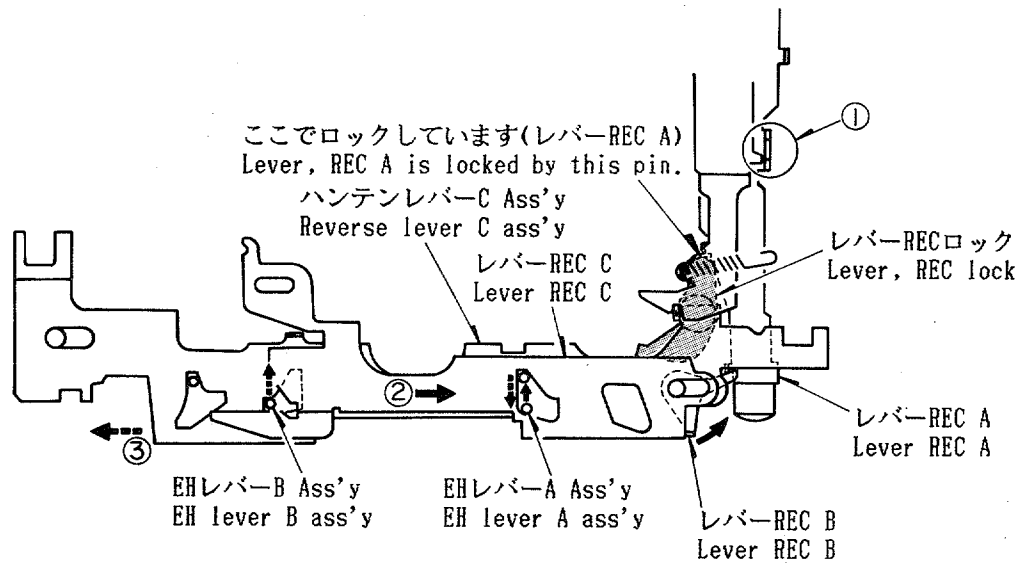

Fig. 13
- 1) REC状態にすると、レバーREC Aは、①部分でR/PスライドSWを切換え、レバーRECロックでロックされます。(Fig. 13参照)
- 2) ヘッドシャーシAss'yの作動は、PLAY作動と同じですが、レバーREC Cも矢印②方向へ作動します。
- 3) レバーREC Cが矢印②方向へ作動するとEHレバーA Ass'yのピンのロックが解除され、EHが上がります。(Fig. 13参照)
両方ともEHレバーA, B Ass'yのピンはロックが解除されますが、ハンテンレバーC Ass'yにより実際は交互にしかEHは上がりません。(Fig. 13参照)
- 1) Setting up the recording mode causes the lever REC A to move forward. This movement turns the rec/pb slide switch into the recording position by pin ①. Then, the lever, REC A is locked by the lever, REC lock to maintain the recording position. (See Fig. 13)
- 2) The action of the head chassis ass'y is same as described previously in paragraph of "PLAY Mode". In the recording mode, the lever, REC C is however moved in the direction of arrow ②, as well.
- 3) The movement of the lever REC C in the direction of arrow ② disengages the pin of the EH lever A ass'y, returning to the neutral position. Both of the pins of the EH levers, A and B ass'y are disengaged from the lever REC C. However, only one side is reset actually because of the structure of the reverse lever C ass'y. (See Fig. 13)
- 4) When the reverse lever C ass'y changes its position in the direction of arrow ③ - toward the reverse state, the EH lever A ass'y is pushed forward while pushing the EH lever B ass'y backward. Thus, the reverse direction erasure can be performed.